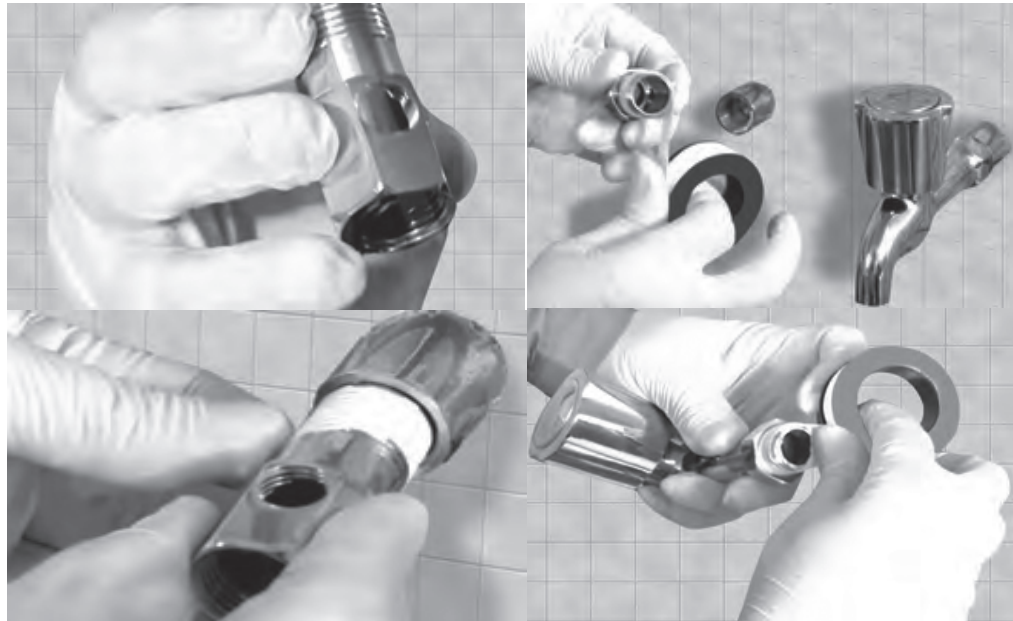

Figure 3.4 : Applying Teflon tape
5. Use teflon tape to create a leak-free joint, fig 3.4.
6. It should be wrapped tightly on a three-way connector in a clockwise direction; otherwise it may loosen while tightening on the water supply line fig. 3.4.